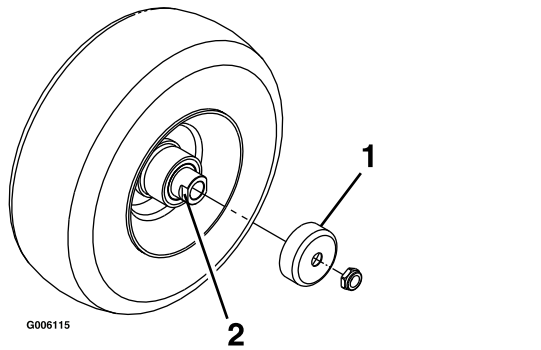

Figure 38
4. Remove the seal guards from the wheel hub (Figure 38).